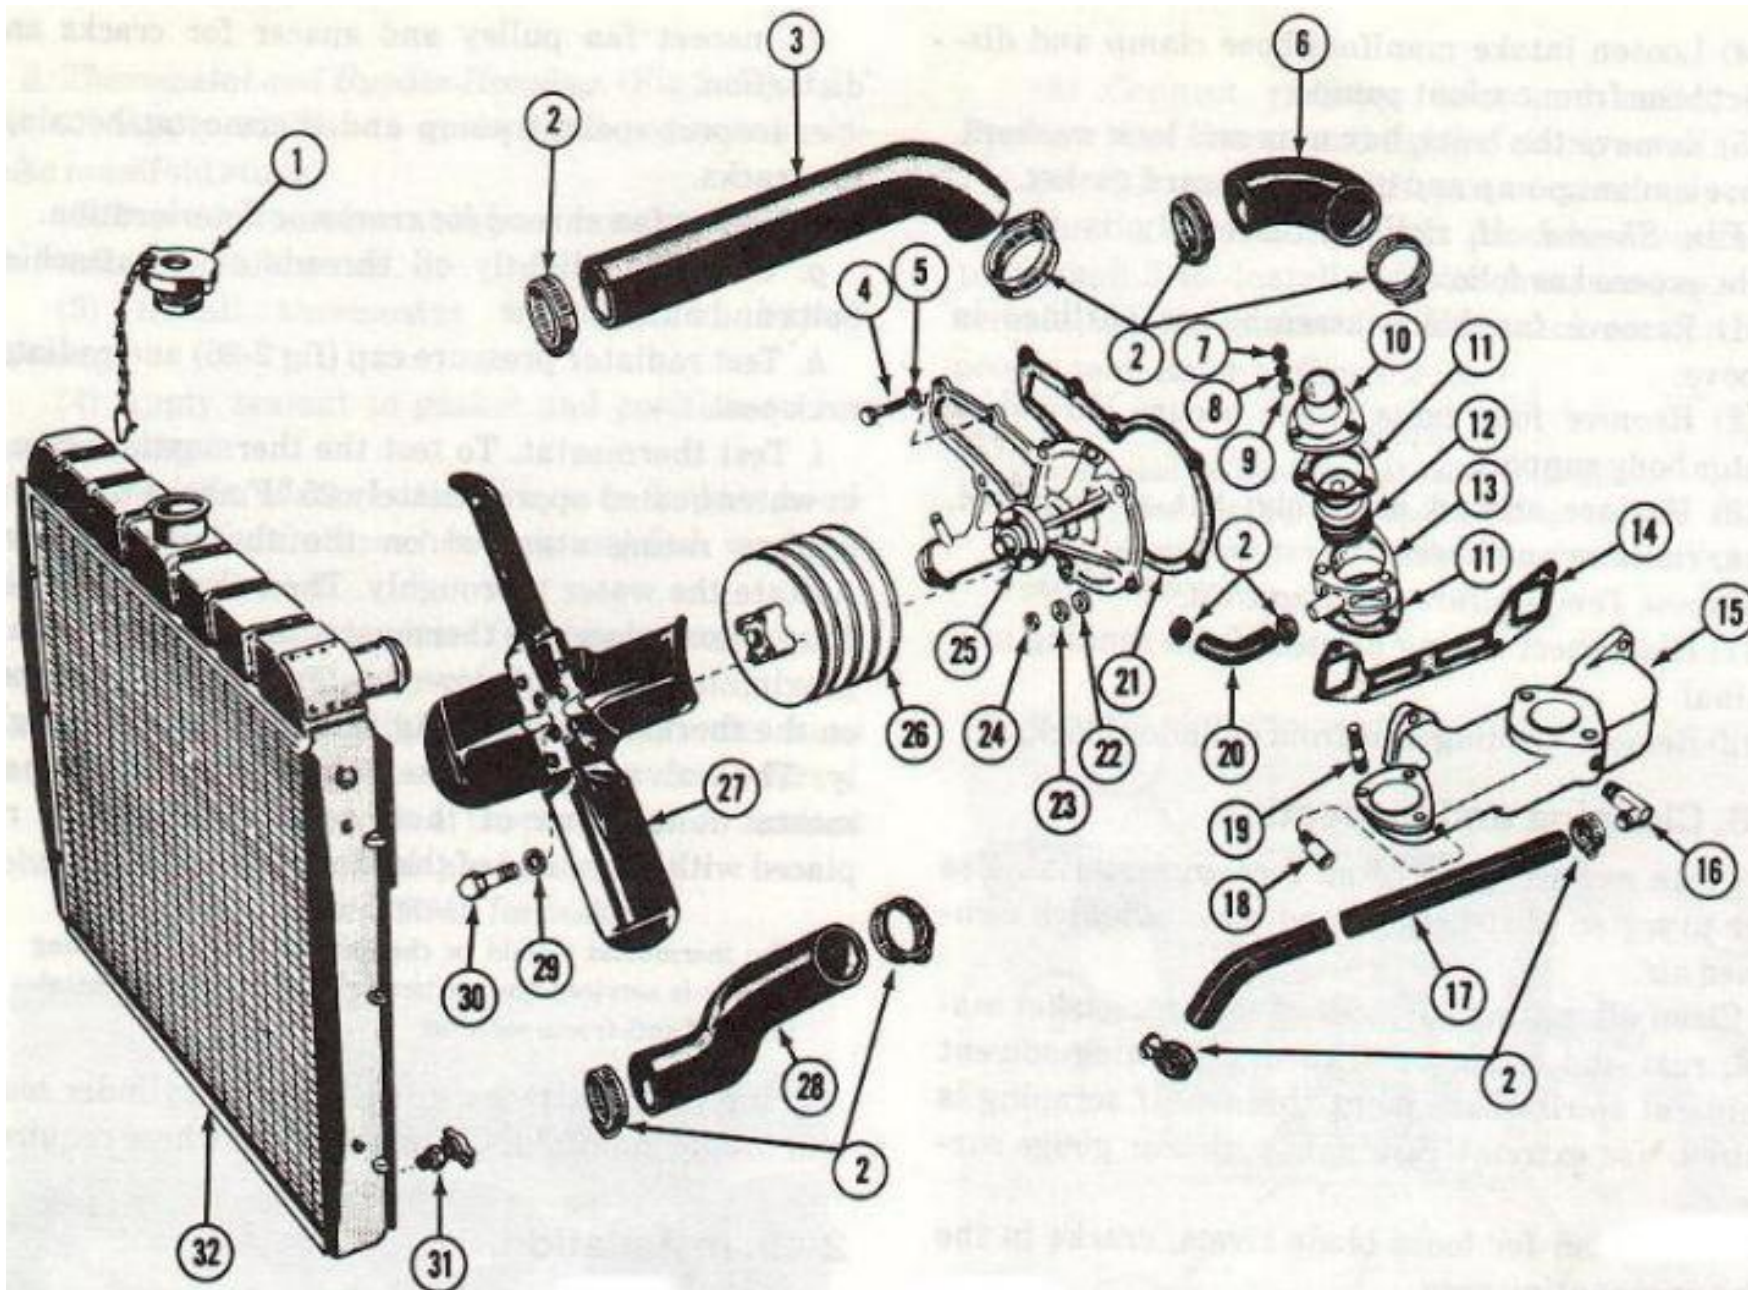

Figure 2-25. Engine cooling system.
Refer to paragraph 2-23 when the cooling system is removed as part of the power plant assembly and to figure 2-25 for removal of cooling system components.
- (1) Drain radiator as outlined in paragraph 2-46g.
- (2) Loosen hose clamp and remove radiator inlet hose.
- (3) Remove three hex nuts and lock washers and remove water outlet elbow, gasket and thermostat assembly.
- (4) Loosen clamp and remove bypass hose.
- (5) Remove bypass housing and gasket (fig 2-25).
- (1) Position fan shroud to radiator.
- (2) Install shroud and radiator to radiator body support and secure with four cap screws, lock washers and flat washers.
b. Coolant Pump. (Fig 2-25)
- (1) Apply sealant and position gasket on coolant pump.
- (2) Install coolant pump and gasket to timing chain cover and secure with eight hex nuts, lock washers. Torque to 12-15 lbs-ft.
- (3) Install fan pulley and fan blade on coolant pump hub. Secure with four cap screws and lock washers. Torque to 12-15 lbs-ft.
- (4) Connect intake manifold hose to coolant pump housing nipple. Tighten clamp screw.
- (5) Connect radiator outlet (engine inlet) hose to coolant pump housing.
- (6) Position hose clamp and tighten clamp screw.
- (7) Install drive belts and tension in accordance with procedure outlined in paragraph 2-46.
- (8) Fill cooling system with the proper seasonal coolant solution in accordance with paragraph 2-46.